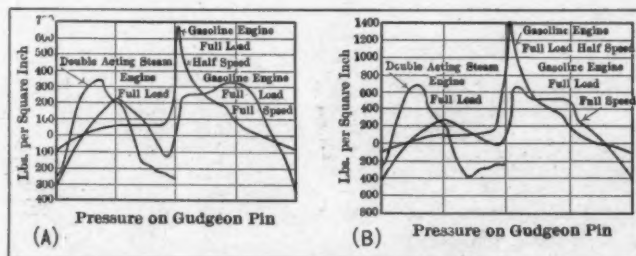

Fig. 2—(A) Observations of pressures on gudgeon pins; (B) Observations of pressures under a different set of conditions as stated
As a further indication of the great variations that take place in the pressure on bearings reference may be had to Fig. 2, in which (A) presents curves of the pressure on gudgeon pins of both double-acting steam engine and a gasoline motor. It will be observed that the pressure on the pin of the steam engine is much softer than it is in the case of the gasoline motor, and that the variations in pressure in the gasoline motor example